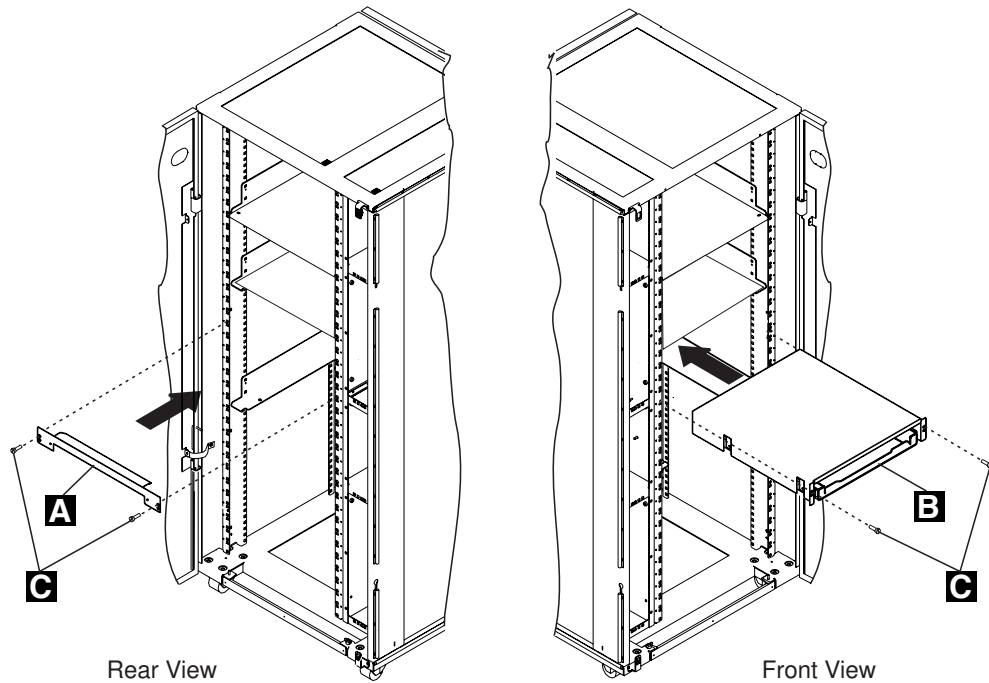

Figure 1-6. Installing the Service Drawer
9. Refer to Figure 1-6, on the rear side of the controller expansion, install bracket **A** using two screws **C** (PN 1621230).